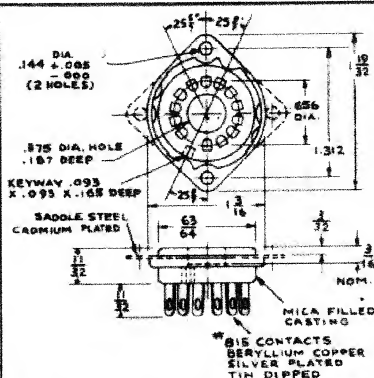

FIG. 8 CONTACT SOCKET ASSEMBLY HSK 106 AND HSK 112 FOR STANDARD AND SUPER TUBES
- Note 2** See Fig. 8. The tube socket is oriented with respect to the viewing position so that A-A', intersecting the